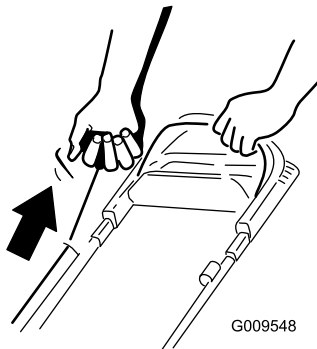

Figure 13
2. Pull the recoil-start handle (Figure 13).
Note: When you pull the recoil-start handle, pull it lightly until you feel resistance, then pull it sharply (Figure 13). Allow the rope to return to the handle slowly.